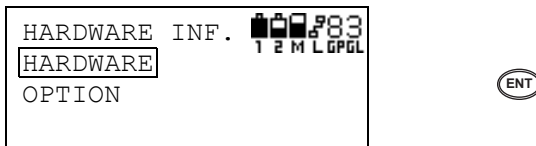

Figure 3-128. Select Hardware and Press Enter
2. On the Hardware Information screen, select HARDWARE and press **ENT** (Figure 3-128).